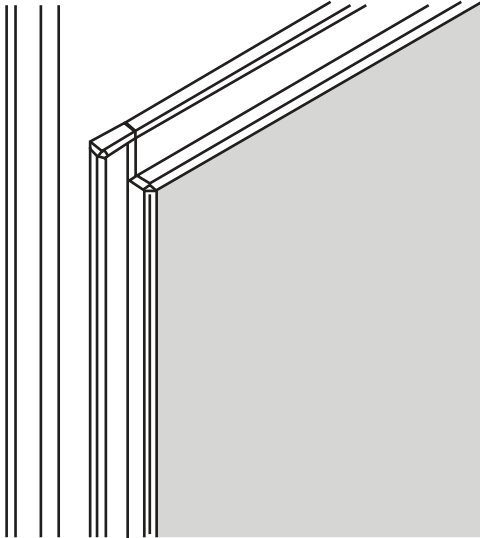

Figure 5
- With the top side pieces in place, measure the distance from the top of the trim piece to the floor. Then trim pieces (A) and (E) to this dimension so that they assemble as shown in Figure 5 and 6.